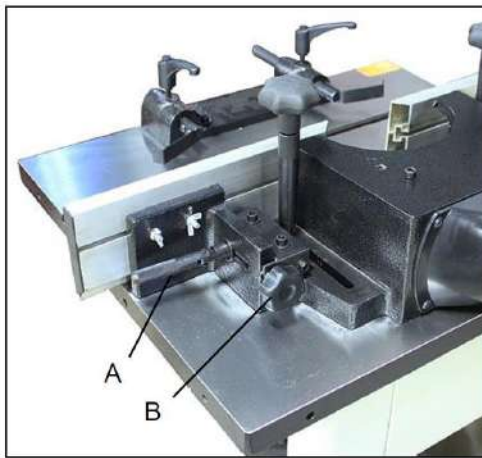
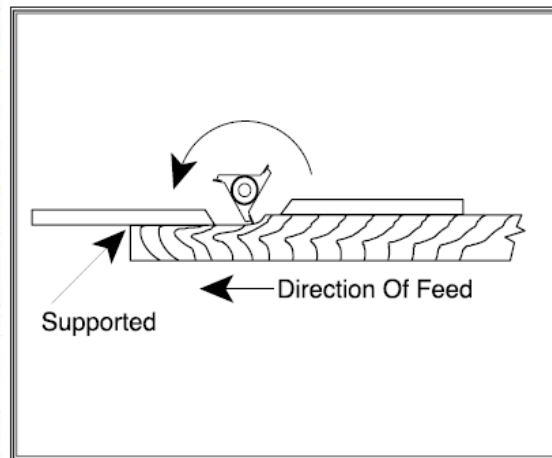

Figure26
Figure27.
1. Loosen the locking handles(A) on the sides of the fence mount as shown in **Figure 26**.
2. Turn the adjustment knob(B) located on the back of the fence mount and adjust the infeed fence until the workpiece contacts the cutter at the desired location.
7. Once the cutter has come to a complete stop, adjust the outfeed fence so that it just touches the newly cut edge as shown in **Figure 27**.